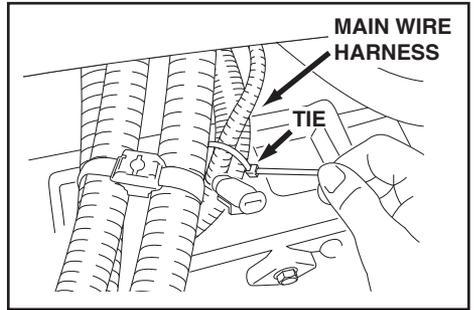

Fig. 14
- Tie off the OCP terminal and plug to the main wire harness to prevent separation due to vibration (See Fig. 14).